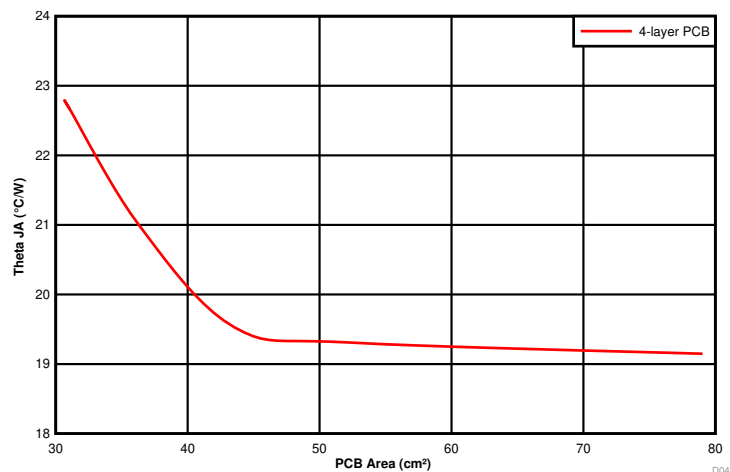

Figure 47.  $R_{\theta JA}$  versus PCB Area (per Layer)
The amount of PCB copper affects the thermal performance of the device. Figure 47 shows the effects of copper area on the junction-to-ambient thermal resistance ( $R_{\theta JA}$ ) of the TPSM53603. The junction-to-ambient thermal resistance is plotted for a 4-layer PCB with PCB area from 30 cm2 to 80 cm2.
3. Reference Figure 47 to determine the minimum required PCB area for the application conditions.